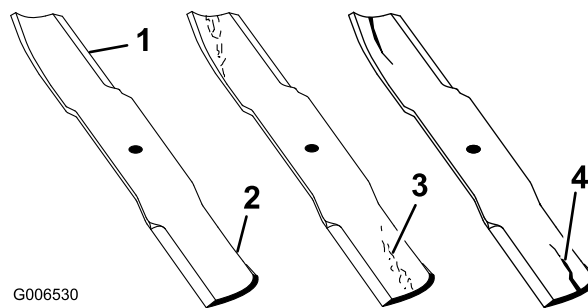

Figure 90
- Inspect the cutting edges (Figure 90). If the edges are not sharp or have nicks, remove and sharpen the blades. Refer to Sharpening the Blades.
- Inspect the blades, especially the curved area (Figure 90). If you notice any damage, wear, or a slot forming in this area (Figure 90), immediately install a new blade.